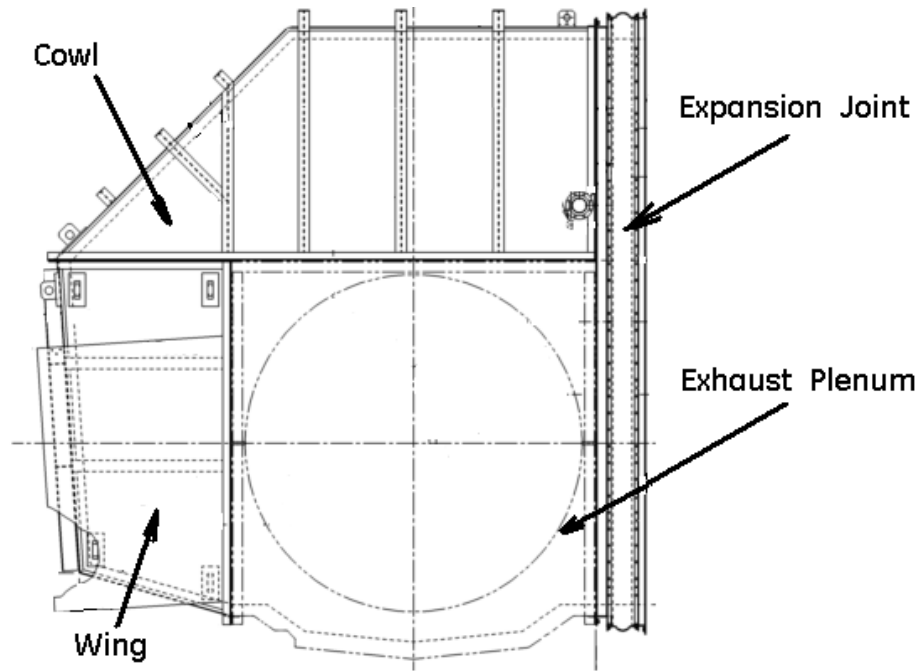

Figure 2. Typical B, C & E class MLI A042 & 1625 Arrangement
- B, C and E class A042 and 1625 arrangement (See Figure 2)